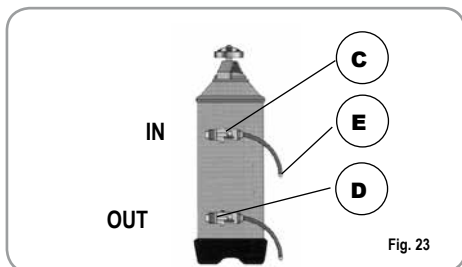

Fig. 23
1) 1) Turn the machine off and place a container large enough to contain at least 5 litres under tube E (Fig. 23).